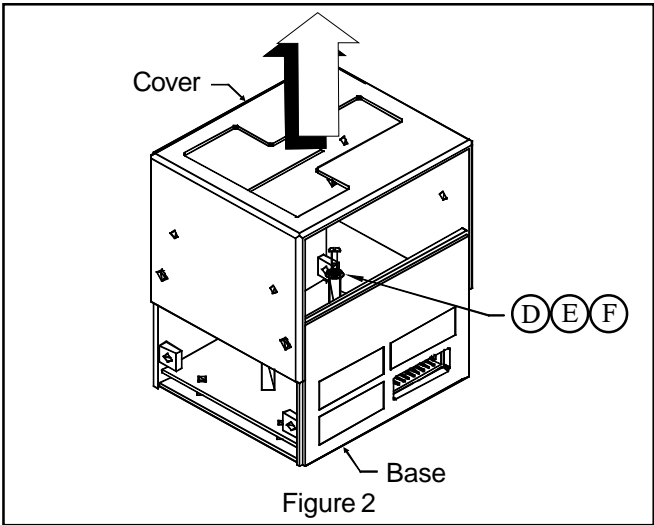

Figure 2
- 3) Slide Cover and Base apart. See figure 2.
- 4) Remove screw (D), washer (E) and lockwasher (F). See figure 2.